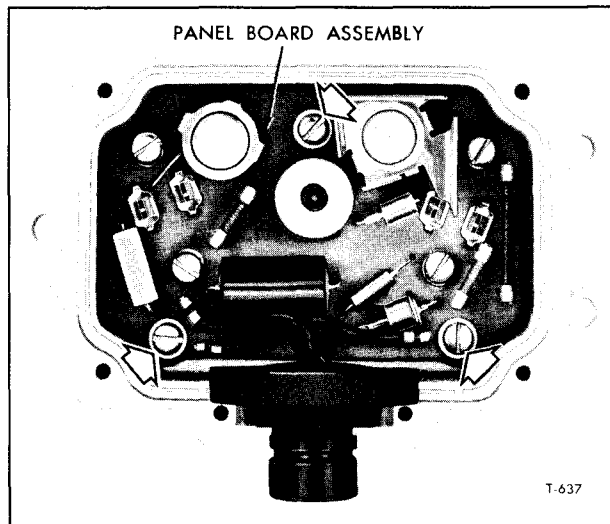

Figure 33—Regulator with Bottom Plate Removed
1. Remove the bottom plate from the regulator (fig. 33).
2. Remove the three panel board attaching screws identified by arrows (fig. 33), and lift the assembly from the housing.